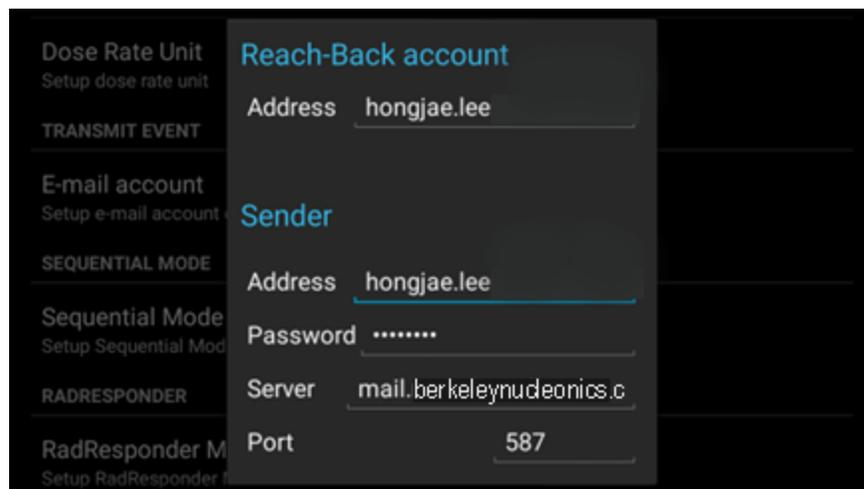

Figure 4.21. Reach-Back account features
1. Type in information about the sender and receiver's email account information as shown in figure 4.21. The email account setup menu can be accessed by: Press menu button  on the main screen → select 'Setup' menu → Administrator → E-mail account.